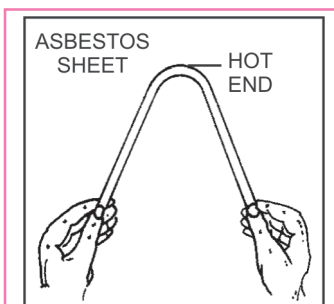

Fig. 2.8 ADJUSTING THE EXACT ANGLE AND MAKING THE BENT TUBE COPLANAR
5. Shift the tube immediately on the asbestos sheet while the tube is soft and make the minor adjustments in the bending process so as to get the exact angle of bending according to the lines drawn on asbestos sheet as shown in Fig. 2.8.